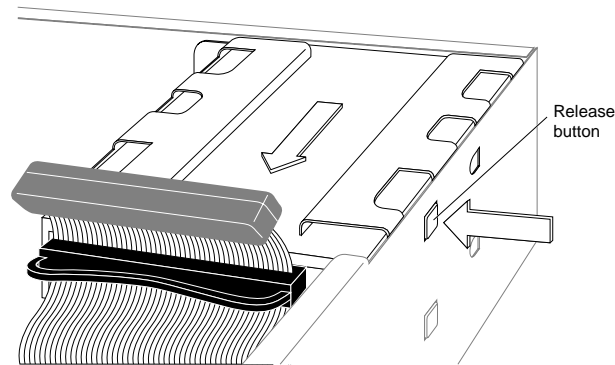

Figure 8-28 Removing the Floptical Drive
6. Remove the drive and bracket by pressing the release button that protrudes through the hole on the side of the chassis, and pulling the unit toward you, as shown in Figure 8-28.